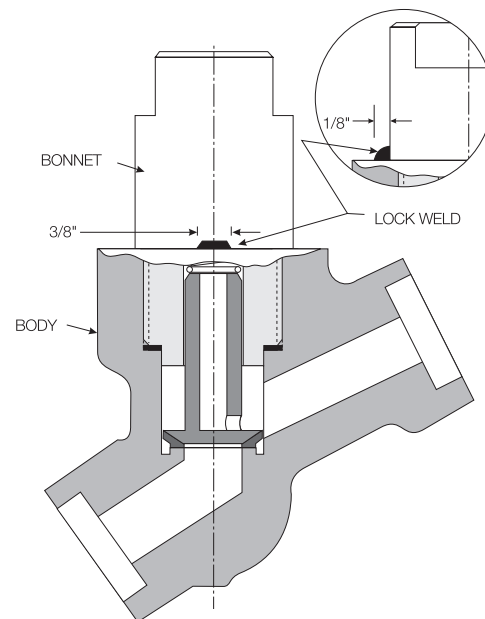

FIGURE 26—Cover Lock Weld
- For a valve with a bonnet lock weld use a disc grinder or other suitable tool, and grind off the weld. (See Figure 26.)